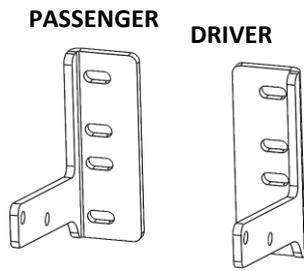

Figure 5: Mounting Brackets
7. Install the Light Bar mounting brackets to the attachment points shown in Figure 5 & 6. You will need to remove the (4) mounting bolts to the lower vehicle crossmember, then install the mounting brackets on top of the crossmember using the provided M8-1.25 x 20mm bolts.